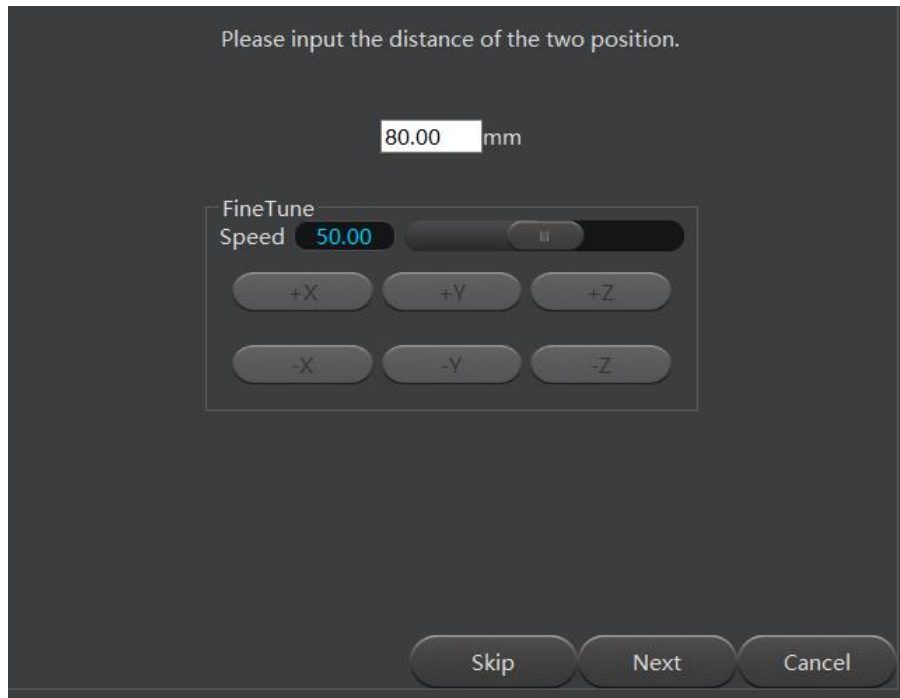

Figure 5.165 Set the distance between the two calibrated points
Step 7 Click **Next** and set the distance between the two calibrated points, as shown in Figure 5.165.